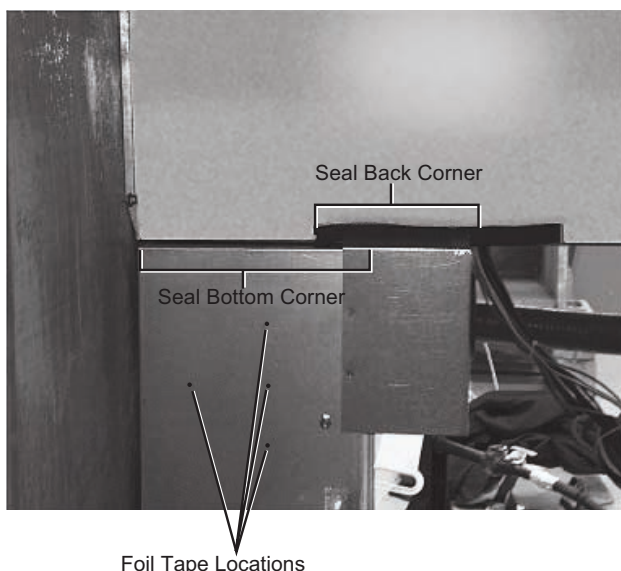

Fig. 7 — Seal Strip and Foil Tape Locations (STD SCCR)
6. Add seal strip to the rear bottom corner of the control panel as shown in Fig. 7. Foil tape open screw holes on the back of the single point box as shown in Fig. 7 (foil tape not included). Different single point boxes will have different screw holes open.